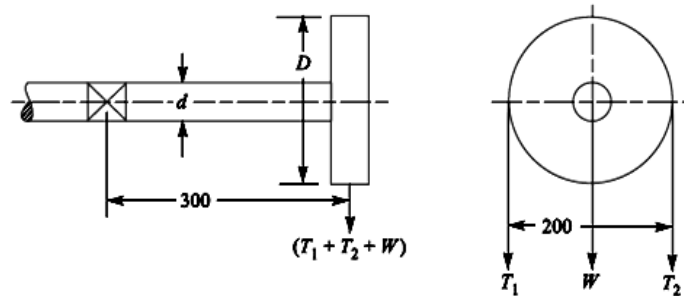

Figure 4
- (c)** Design a shaft to transmit power from an electric motor to a lathe head stock through a pulley by means of a belt drive. The pulley weighs 200 N and is located at 300 mm from the centre of the bearing. The diameter of the pulley is 200 mm and the maximum power transmitted is 1 kW at 120 r.p.m. The angle of lap of the belt is 180° and coefficient of friction between the belt and the pulley is 0.3. The shock and fatigue factors for bending and twisting are 1.5 and 2 respectively. The allowable shear stress in the shaft may be taken as 35 MPa. Refer figure 4. **07**